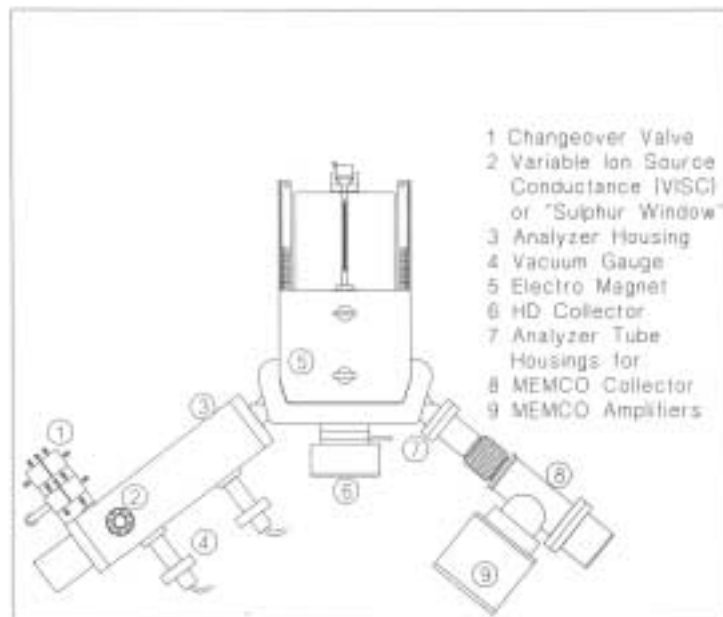
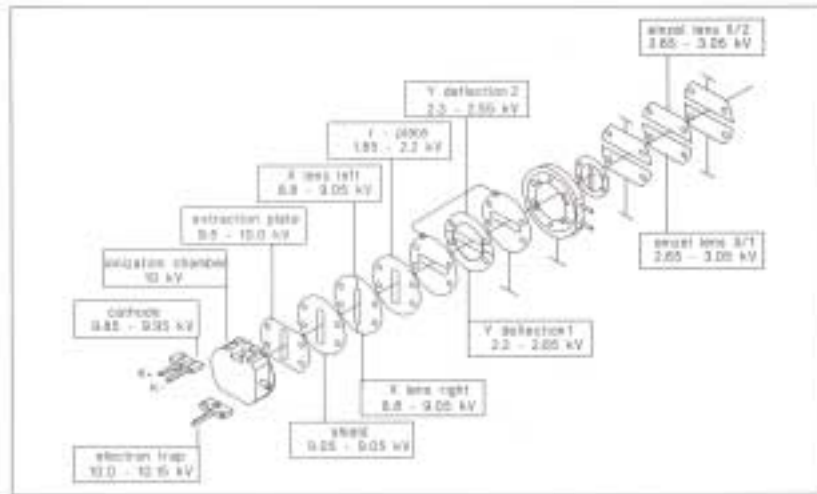

Figure 4: Schematic representation of the MAT252 analyzer system and the arrangement of components. Illustration is from the Finnigan operations manual.
Figure 5: Schematic of MAT252 ion source. Values are ion source potential in relation to ground at 10kV ion acceleration voltage.
Once the gas passes through the changeover valves it enter the source through an inlet probe (not to be confused with the inlet system) which simply directs the gas flow directly into the source block, more precisely the ionization chamber (see Fig 4). The gas flow in the ion source is always molecular. Attached to the source block are the filament (cathode), trap, ion extraction plates, and focusing plates (Fig. 5).
The flight tube has a 90° deflection path (Fig. 4) having a radius of R fitted with a permanent magnet of strength B . The MAT252 is equipped with an electromagnet with a maximum field strength of 0.77 Tesla providing a mass range up to 150 amu at full accelerating voltage. Therefore the radius is fixed and the magnet is variable but constant for any given gas species. At a constant accelerating voltage (V) and magnet strength, the lighter mass will be deflected (bend) more than the heavier mass. In the case of CO₂, mass 44 is bent more than 45 and 46. However, in order to analyze another gas such as N₂ or SO₂ with a fixed magnet, the accelerating voltage needs to increase or decrease, respectively or the accelerating voltage can remain the same and the magnetic field strength can be varied. Therefore, the relation of all these parameters is given as: